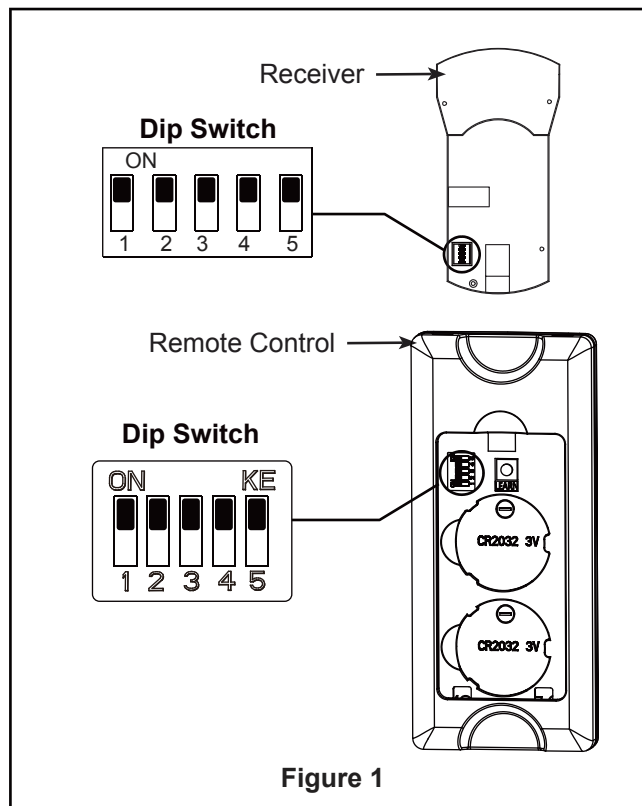

Figure 1
- ☐ 1. To set the code on receiver unit, slide dip switches to the same positions as set on the remote control. (Figure 1)